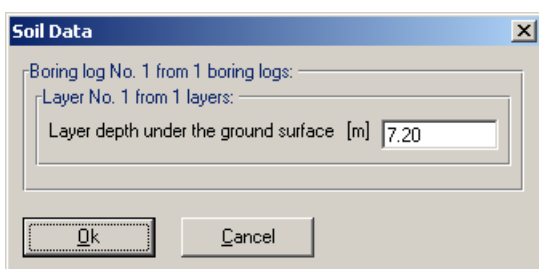

Figure 9-19 "Layer depth under the ground surface" edit box
- Double-click on the layer depth. The corresponding edit box appears allowing you to modify the layer depth under the ground surface, Figure 9-19